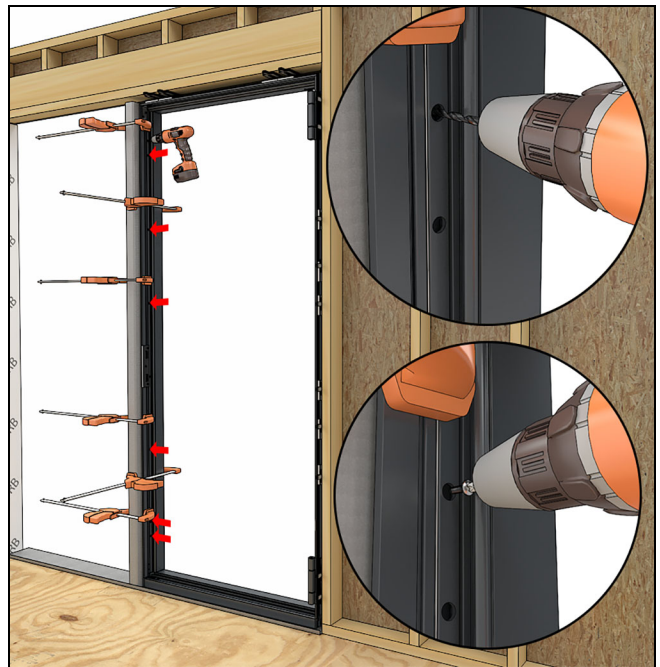

Figure 229
11. Using the pre-drilled installation holes in the frame as a guide, drill through the steel with a #23 bit. See Figure 229.